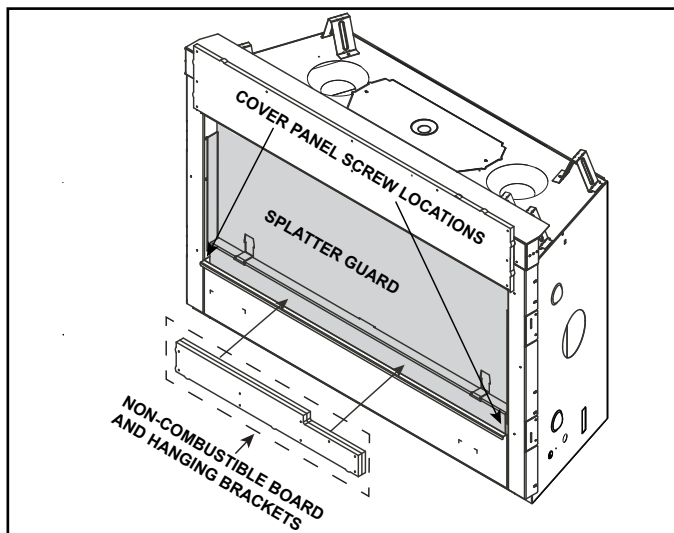
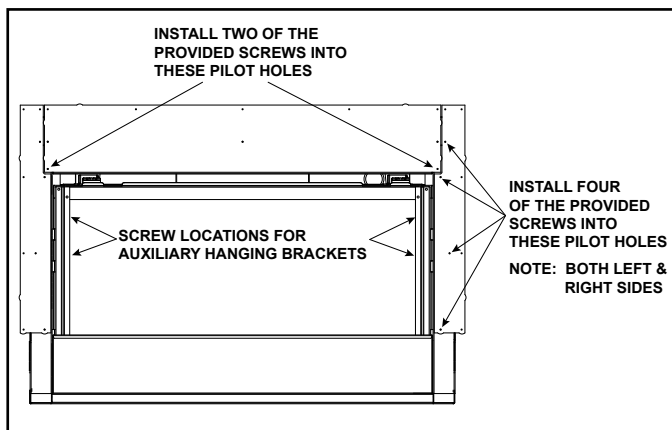
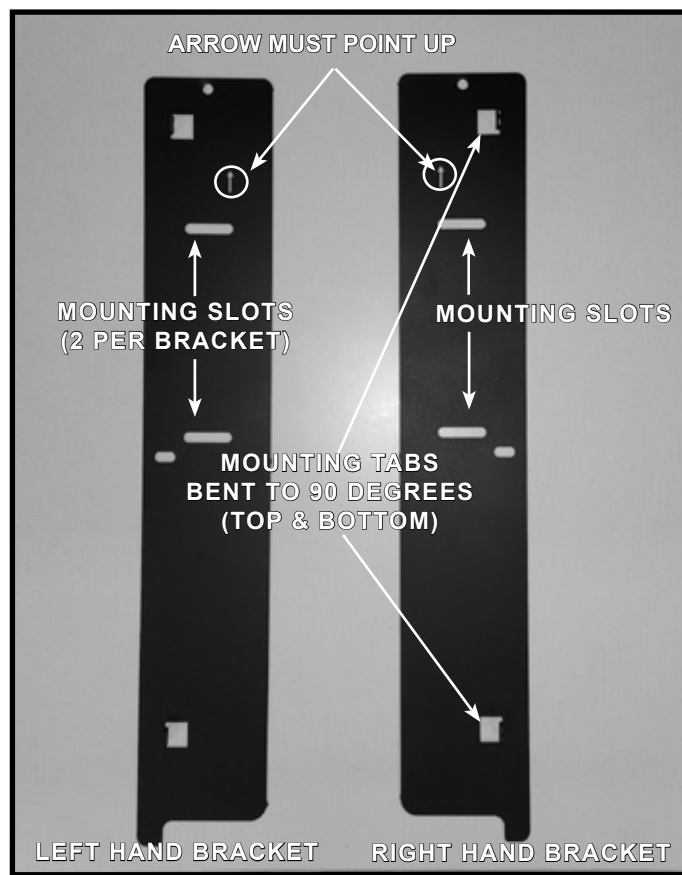

Figure 6.4 Shipping Position - Non-Combustible Sides and Auxiliary Hanging Brackets
Figure 6.5 Installation of the Side Non-Combustible Components
Figure 6.6 Auxiliary Hanging Brackets - Bent For Installation
This model ships with the required top, left and right non-combustible board. The top non-combustible board has been pre-installed at the factory with three screws. The left and right side non-combustible boards are shipped in the cardboard splatter guard in front of the appliance. See Figure 6.4.
4. Further secure the top non-combustible board by installing screws into the pilot holes located in the upper left and right corners of the top non-combustible board as shown in Figure 6.5.
5. Install the left and right non-combustible components with four of the provided Phillips screws. See Figure 6.5. After all non-combustible material has been installed, remove the small package of sheet metal screws from the manual bag. Reinstall the lower cover panel. Be sure to “hook” it onto the appliance. Use two screws from the package to fasten the top sides of the cover panel to the appliance. The holes from the cover panel should align with the holes in the sides of the appliance. See Figure 6.4.
1. Loosen both shoulder bolts on each auxiliary hanging bracket. See Figure 6.5 and Figure 6.6. Pull the brackets away from the appliance to aid with finishing material installation.